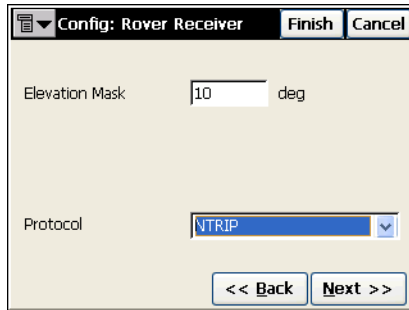

Figure 3-22. Rover Receiver
1. Set the Elevation Mask for the Rover Receiver and select one of the following protocols from the *Protocol* drop-down list (Figure 3-22 on page 3-17), then tap **Next**.